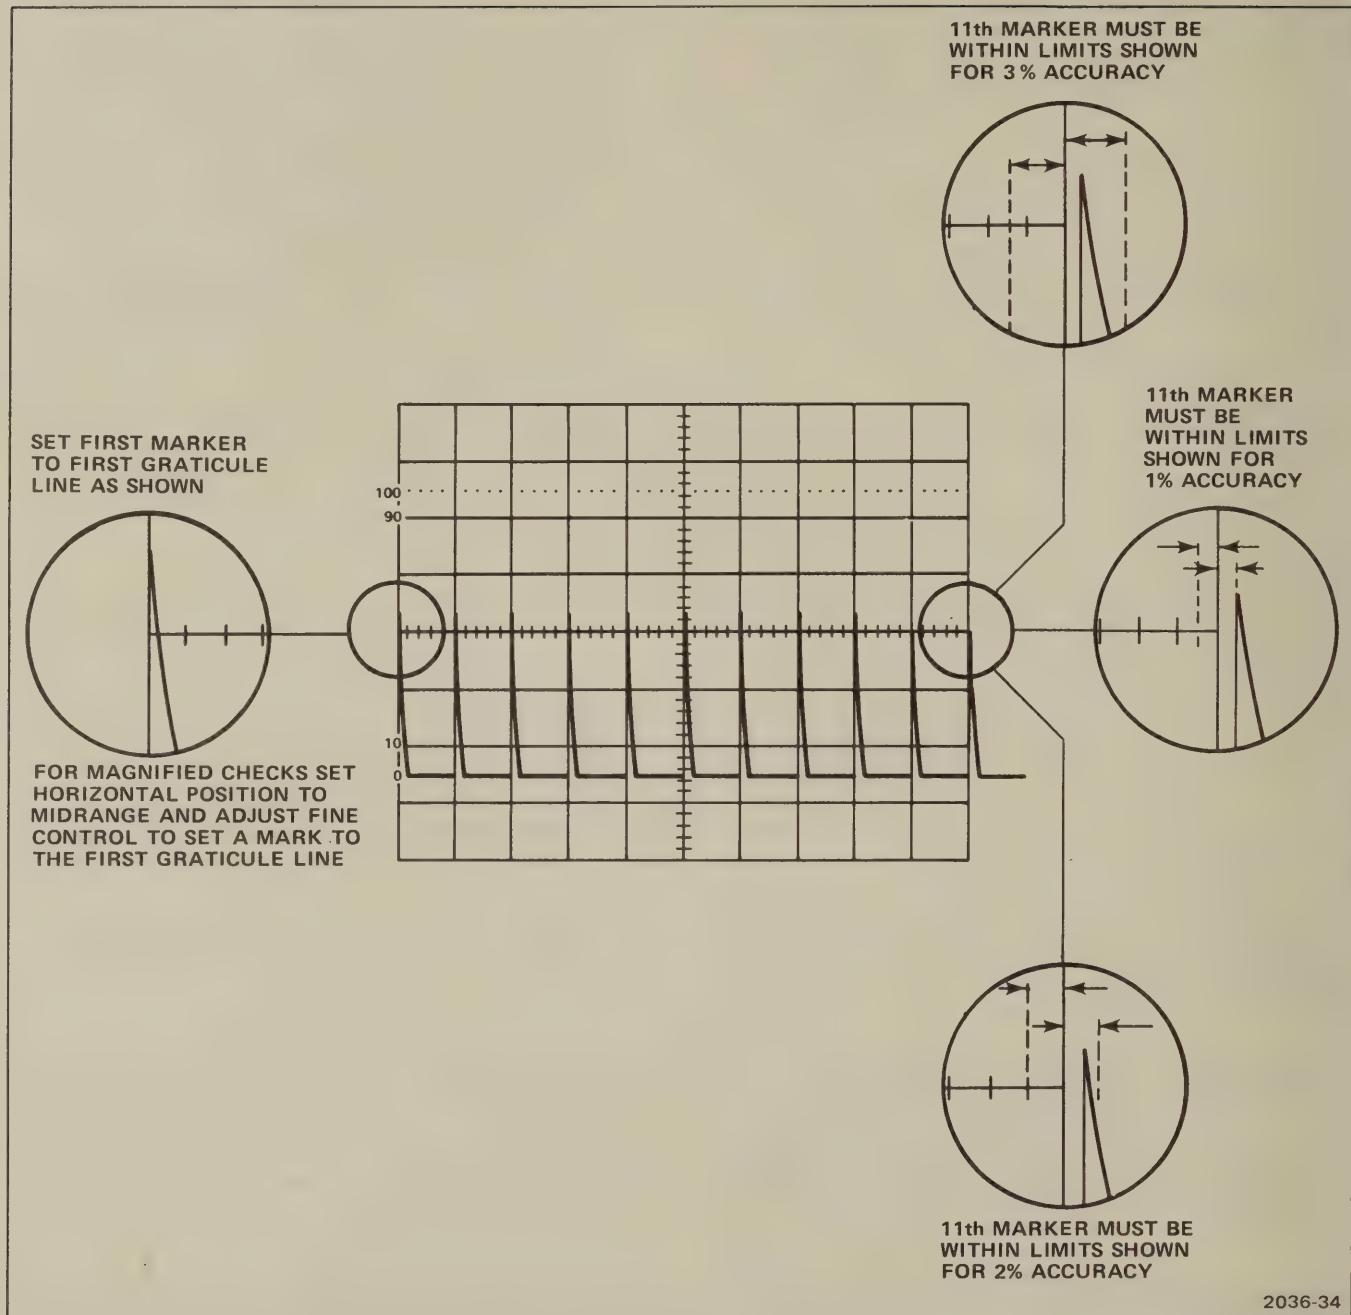

Fig. 6-9. Timing accuracies.
g. **CHECK**—The eleventh time marker is within 0.2 divisions (2%) of the eleventh vertical graticule line (see Figure 6-9).
m. **CHECK**—Eleventh time marker is within 0.2 division of the eleventh vertical graticule line (see Figure 6-9).
- j. Set first displayed timer marker to first vertical graticule line (see Figure 6-9).
- k. **CHECK**—Eleventh time marker is within 0.2 division (2%) of the eleventh vertical graticule line (see Figure 6-9).
Unless otherwise stated, set POSITION and FINE (HORIZ) controls so the first time marker coincides with the first graticule line and check the error at the last graticule line (see Figure 6-9).
- b. **CHECK**—Timing accuracy is within 1% at TIME/DIV settings from $.01 \mu\text{s}$ to 5 ms (see Figure 6-9).
- c. **CHECK**—Timing accuracy is within 2% at TIME/DIV settings from $.05 \mu\text{s}$ to .5 s (see Figure 6-9).
- c. **CHECK**—Timing accuracy is within 3% at TIME/DIV settings from $.05 \mu\text{s}$ to .5 s (see Figure 6-9).